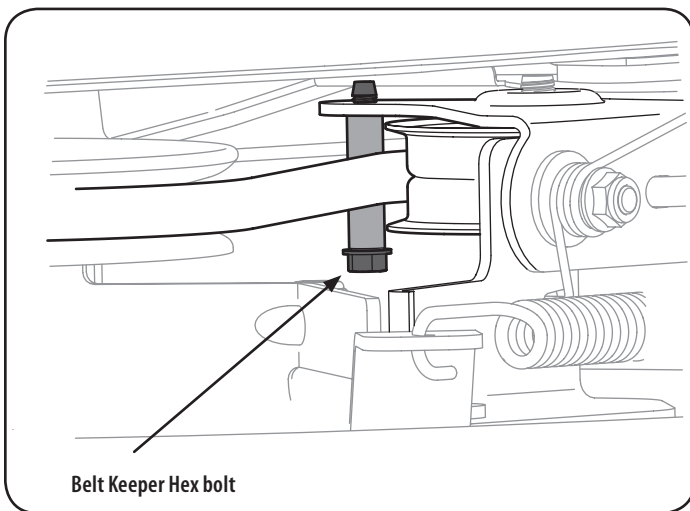

Figure 43
6. Remove the belt keeping spacer by removing the hex bolt that secures it. See Figure 43.